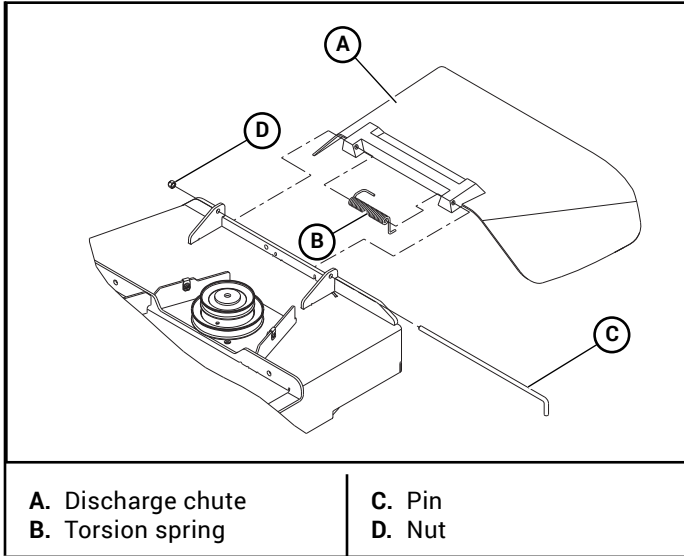
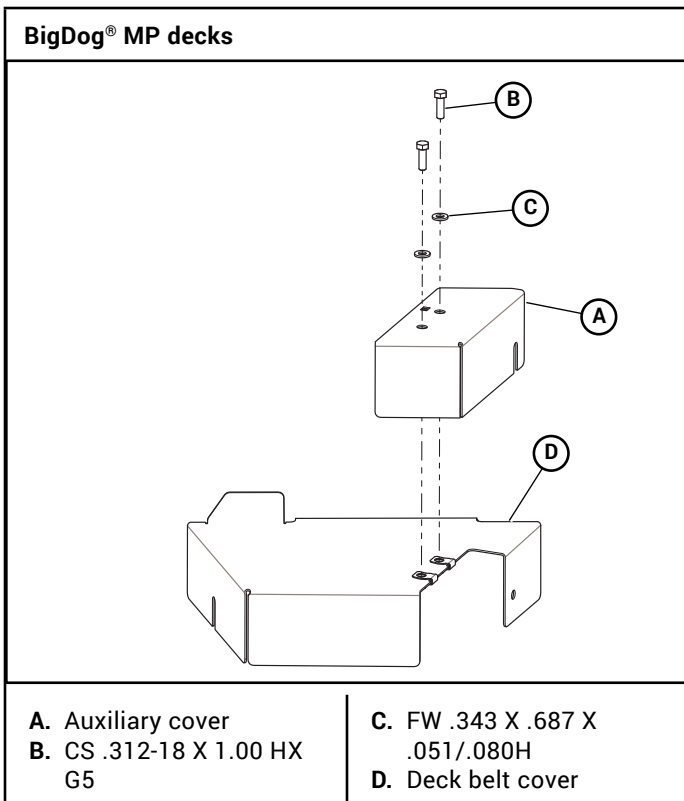

Figure 4-16
Figure 4-17
NOTE: Depending on the deck, the pin will either be inserted from the front or the rear. Make sure to replace it in the proper orientation. Figure 4-16
9. BigDog® MP decks & Hustler® Super Z® 66"/72" decks only – Attach the auxiliary cover to the deck belt cover. Figure 4-16 & Figure 4-17